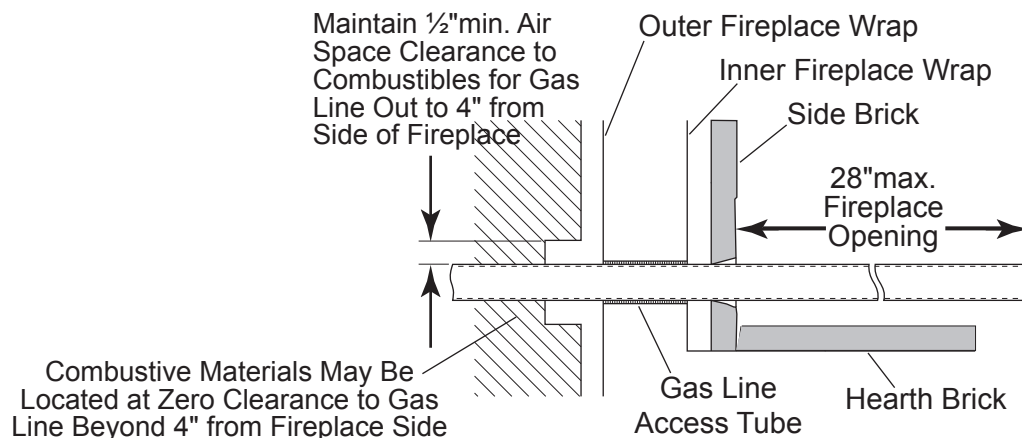

Figure 36 - Gas Line Opening Dimensions
5. The gas appliance and all connecting gas piping must only be installed by a licensed gas appliance installer. *See Figure 36* for the gas line opening dimensions on the fireplace.